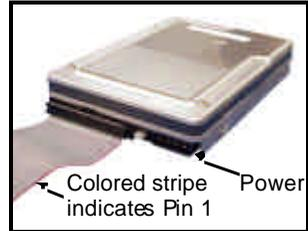

Figure I-1
Step 2: Next, you should install the drives into your system, and connect the power. Attach one UltraDMA cable (black connector) to each drive (if you have a Slave drive, connect that drive to the second connector (grey connector) on the UltraDMA cable). Make sure that Pin 1 on the cable (indicated by the colored stripe) is connected to Pin 1 of the hard drive. See Figure I-1 (to the right) for an example.